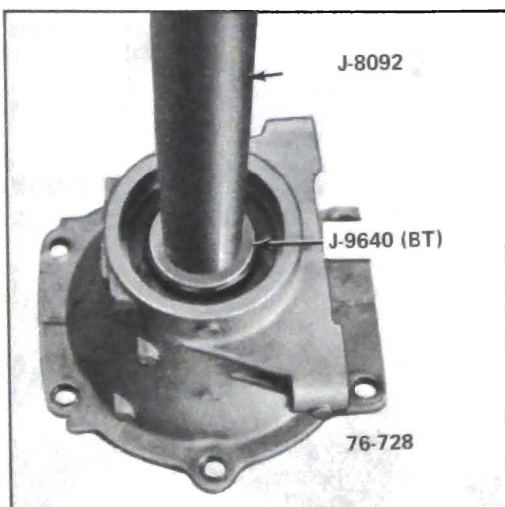

Figure 76-728
a. Using Drive Handle J-8092 and Tool J-9640, remove bushing. See Figure 76-728.
b. Using Drive Handle J-8092 and Tool J-9640, install bushing. See Figure 76-728.